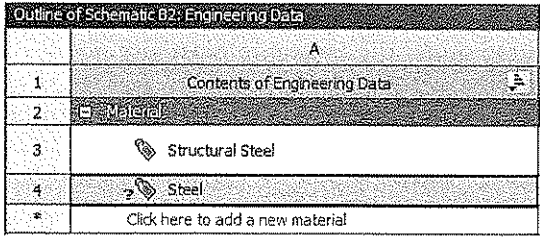

Figure 6-12 **Steel** material added to the **Outline** window
- 3. Press ENTER to confirm the name; row 4 is created and displays the **Steel** material along with a question symbol attached to it under the **Contents of Engineering Data** column of the **Engineering Data**, as shown in Figure 6-12. Also, the **Properties of Outline** window for the **Steel** material is displayed.